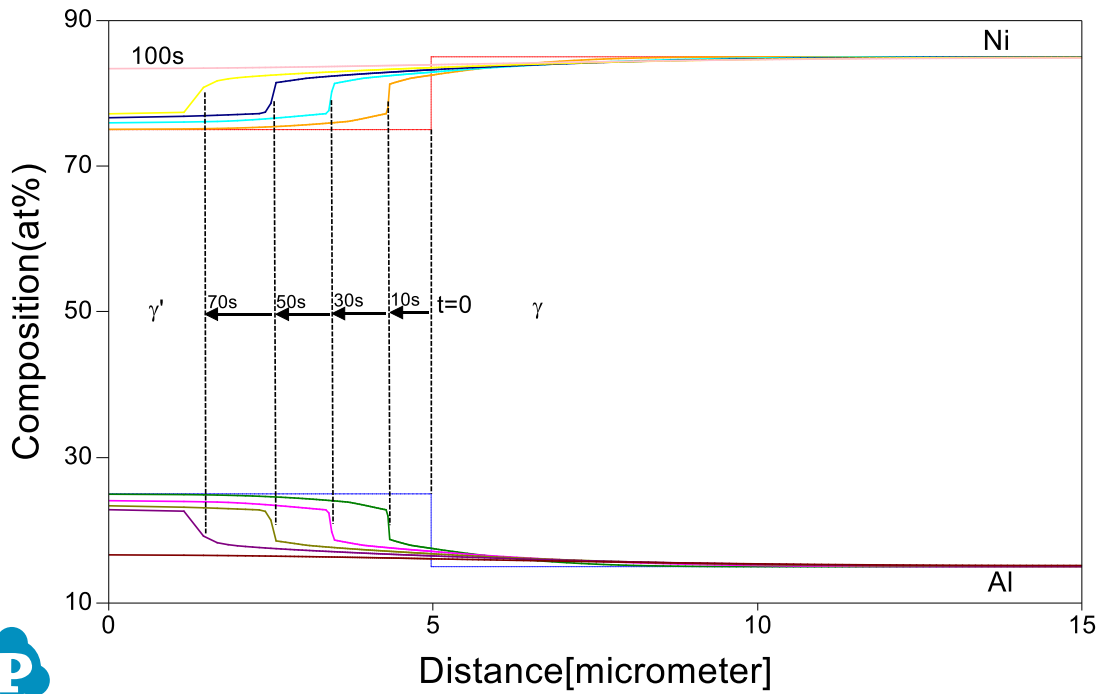

Figure 4.9.2: Calculated composition profiles at 1473 K for 10s, 30s, 50s, 70s and 100s.
- The calculated plot is shown in Figure 4.9.2. Add text and change graph appearance following the procedure in Pandat User's Guide 2.3.1;